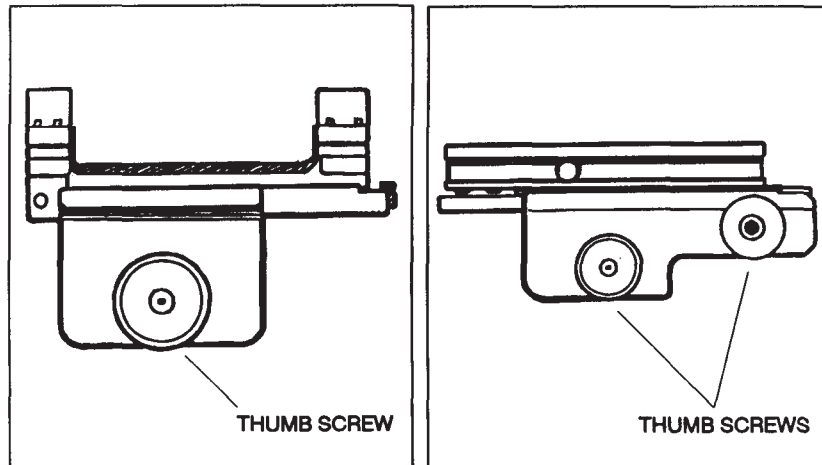
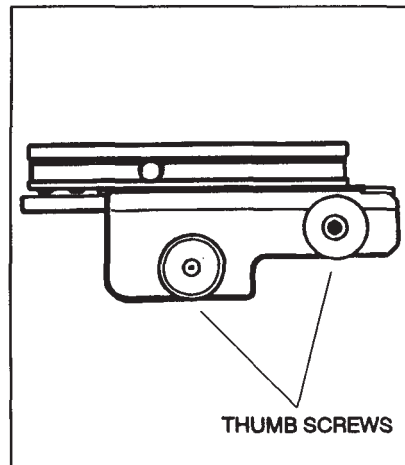

Figure B-8. ART I mount.
Figure B-9. ART II mount.
(5) A ballistic cam is attached to the power adjustment ring on the ART I scope. The ART II scope has a separate power ring and ballistic cam.
(6) The power ring on both scopes increases and decreases the magnification of the scope, while the ballistic cam raises and lowers the scope to compensate for elevation.
(7) Focus adjustments are made by screwing the eyepiece into or away from the scope barrel until the reticle is clear.
b. **Scope Mounts.** The ART mounts are made of lightweight aluminum consisting of a side-mounting plate and a spring-loaded base with scope mounting rings. The scope mount is designed for low-profile mounting of the scope to the rifle, using the mounting guide grooves and threaded hole(s) on the left side of the receiver. The ART I has one thumbscrew that screws into the left side of the receiver (Figure B-8). The ART II mount has two thumbscrews; one is screwed into the left side of the receiver, and the other is screwed into the cartridge clip guide in front of the rear sight (Figure B-9).